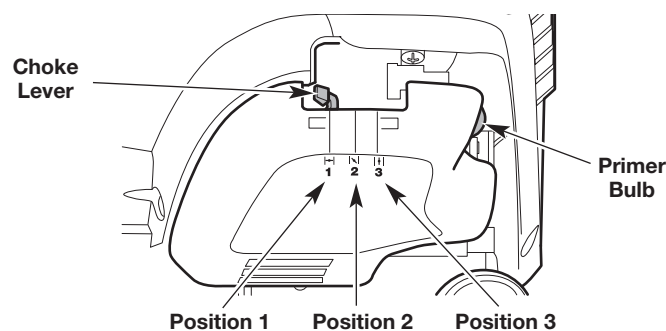

Fig. 12
1. Slowly press and release the primer bulb **10 times** (Fig. 12).
2. Move the choke lever to **Position 1** (Fig. 12).
6. Move the choke lever to **Position 2** (Fig. 12).
9. Move the choke lever to **Position 3** (Fig. 12). Allow the engine to warm up for an additional 60 seconds. The unit may be used during this time.